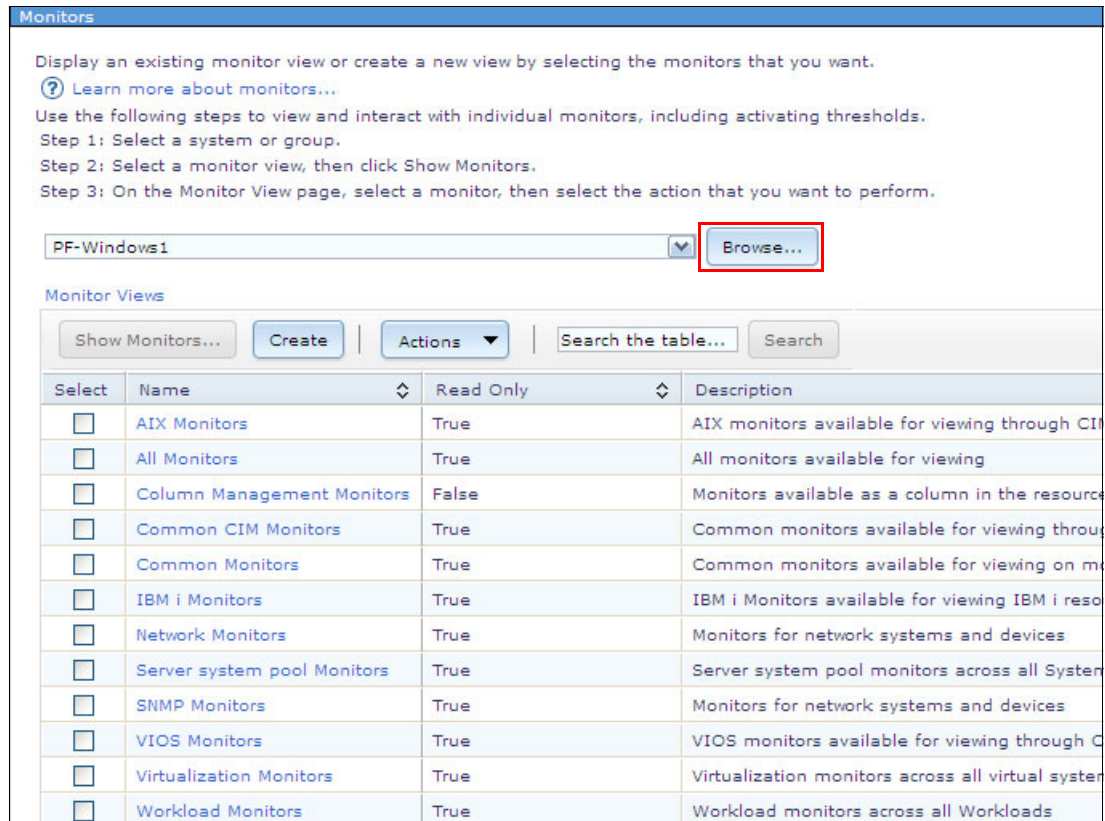

Figure 7-40 Monitors window
2. Click **Browse** to select a system or group to view monitors, as shown in Figure 7-40.